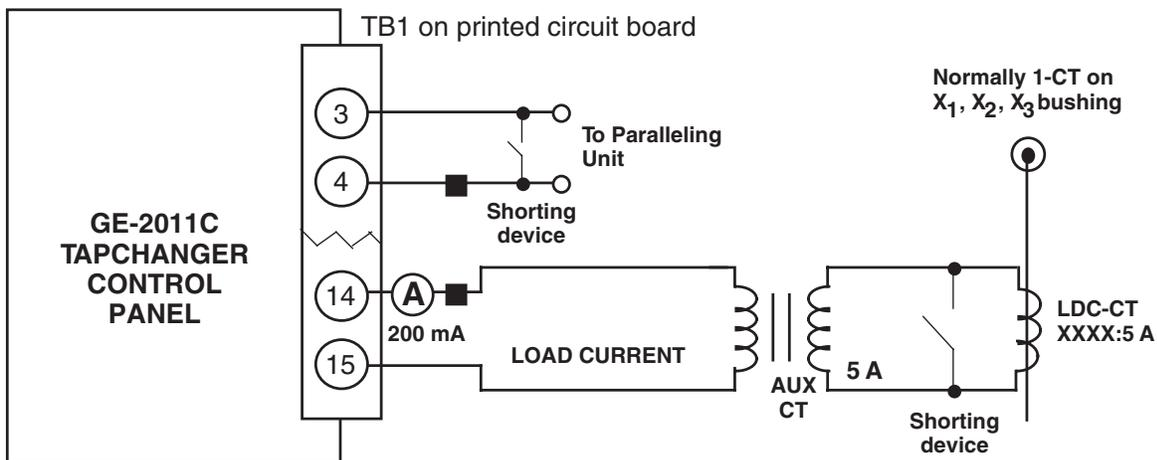

Figure 8-18 GE-2011C Group B-1005 Wiring Harness Setup for Current Checkout Procedure
1. Short the line drop compensator circuit by placing a shorting device of adequate capacity, across the LDC-CT secondary (See Figure 8-18).